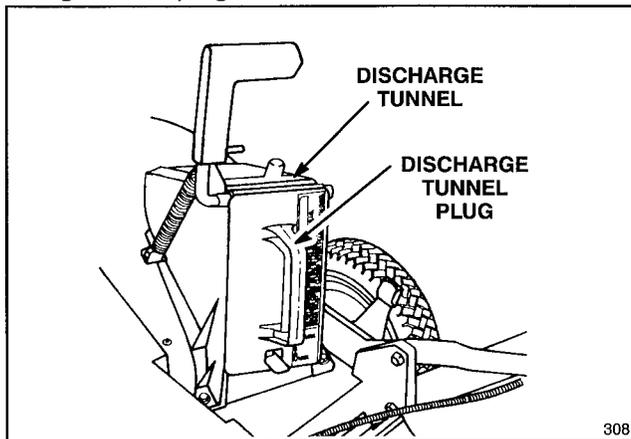

Figure 31
1. **Rear Bagging Kit (Model 59174 for self-propelled models, Model 59179 for hand push models)**—Install discharge tunnel and rear mounting grass bag to convert Recycler® II Super Pro® mower to a rear bagging mower (Fig. 31). Includes discharge tunnel plug.